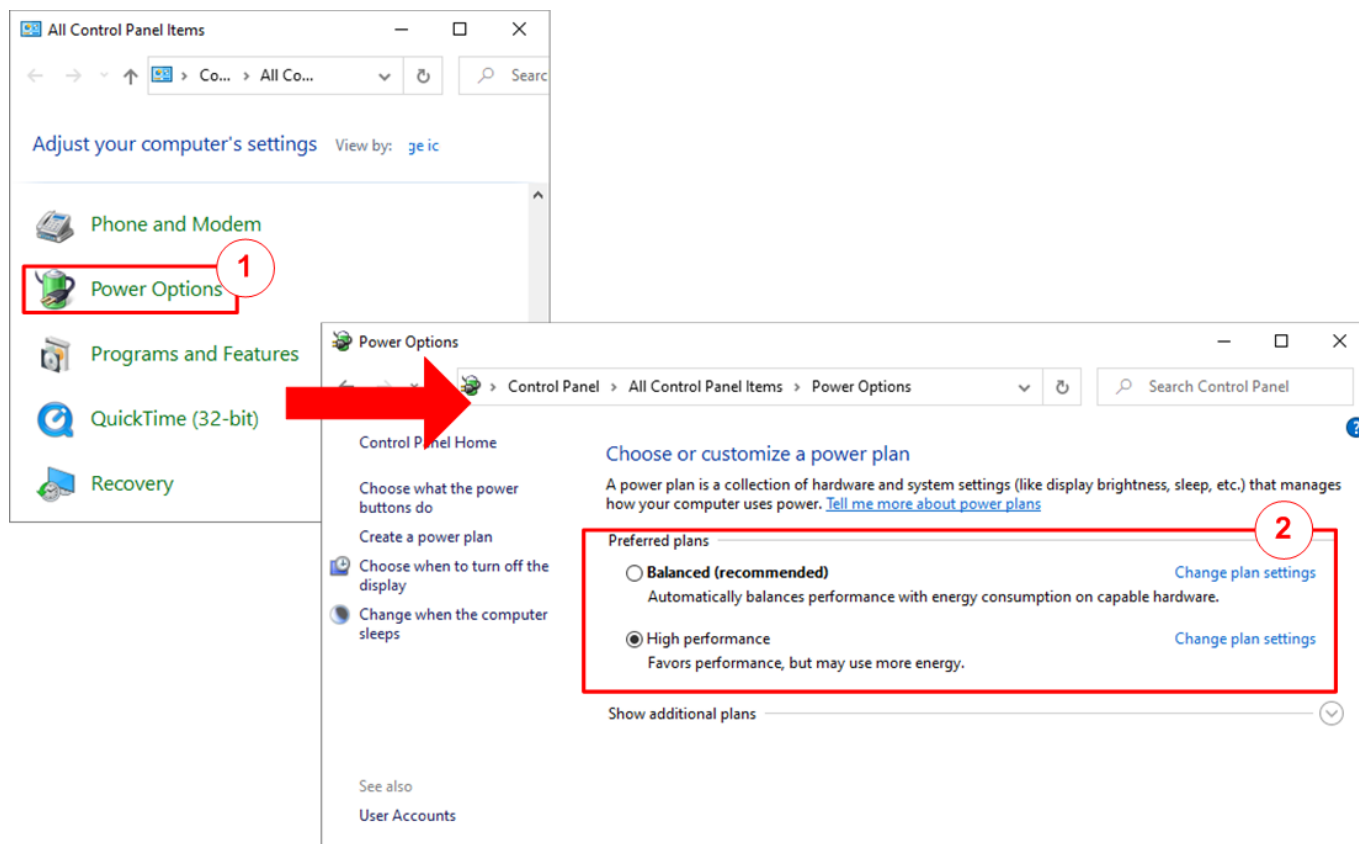

Figure 3-4 Power options
- 1) Open the Control Panel and select Power Options, as shown in the left window of Figure 3-4.
- 2) Change the setting to High Performance, as shown in the right window of Figure 3-4.